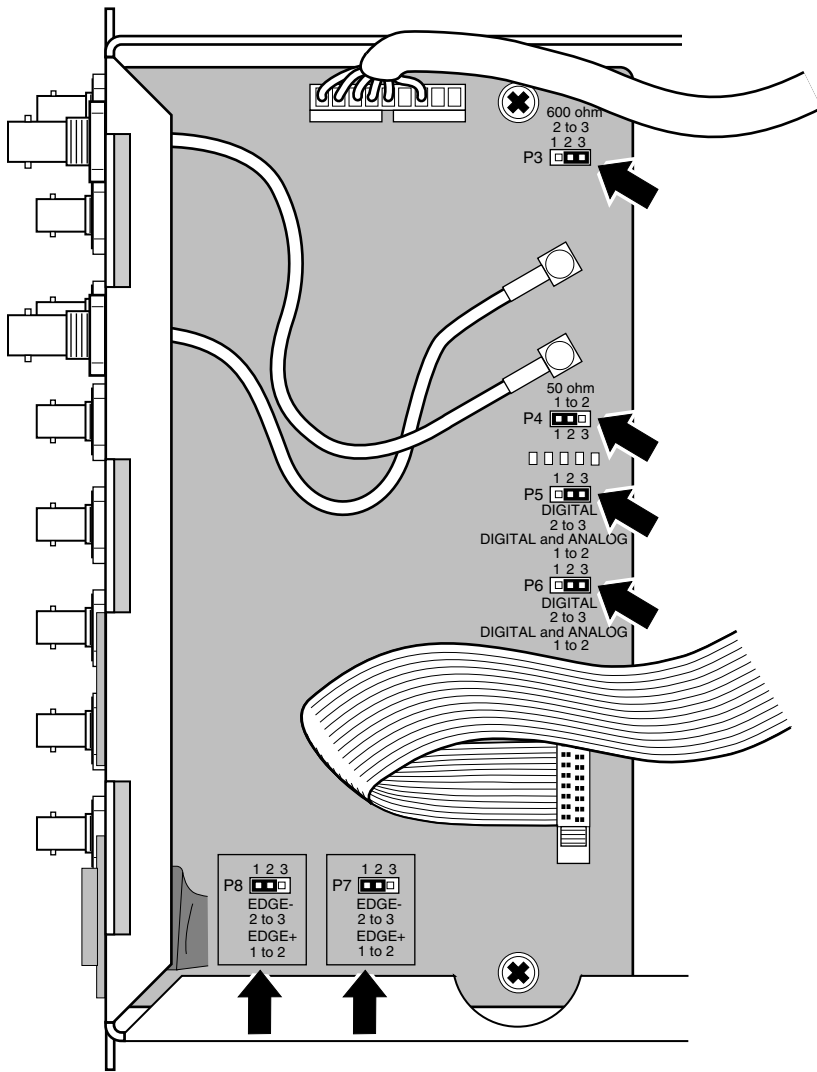

Figure 2-6. 59552A Digital Mode Jumper Locations
- 2 In the 59552A, place both jumpers P5 and P6 in the pins 2,3 position (i.e., pins 2 and 3 shorted or connected together) as shown in Figure 2-6.
- 3 Place both jumpers P7 and P8 in the pins 1,2 position as shown in Figure 2-6.
- 4 Place jumper P3 in the pins 2,3 position (the 600 Ω input impedance default position for the **Analog In (IRIG)** input) as shown in Figure 2-6.
- 5 If you require a 50 Ω load applied to the **Digital In (1 PPS)** input, place jumper P4 in the pins 1,2 position as shown in Figure 2-6.